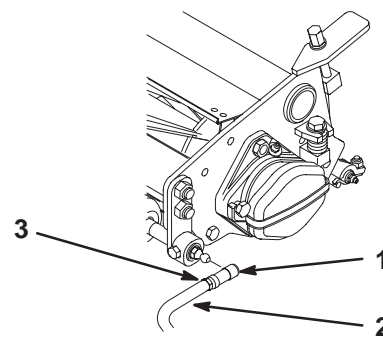

Figure 10
6. Align the sockets in the ball joints so the open side of the socket is centered towards the ball stud. Tighten the jam nuts to secure the sockets in position (Fig. 10).